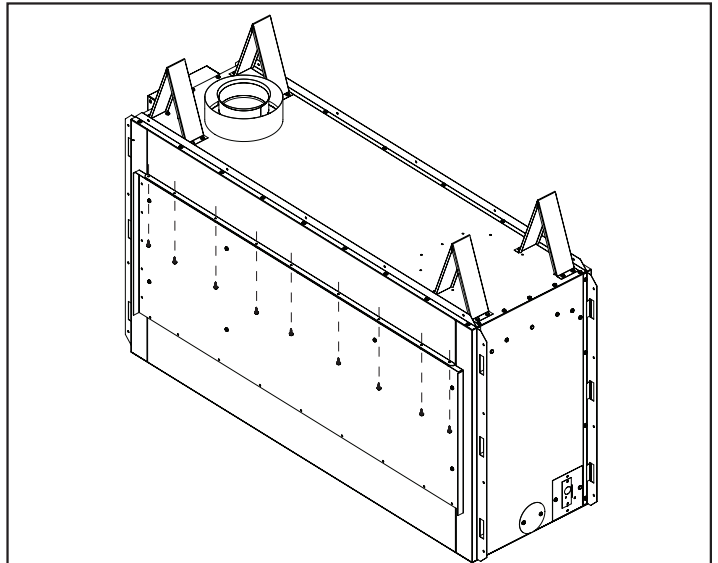

Figure 38 - Removing Rear Panel for See-Thru Applications
1. In the rear of the fireplace, locate screws at top of rear panel and remove as shown in **Figure 38**. Discard screws and rear panel.